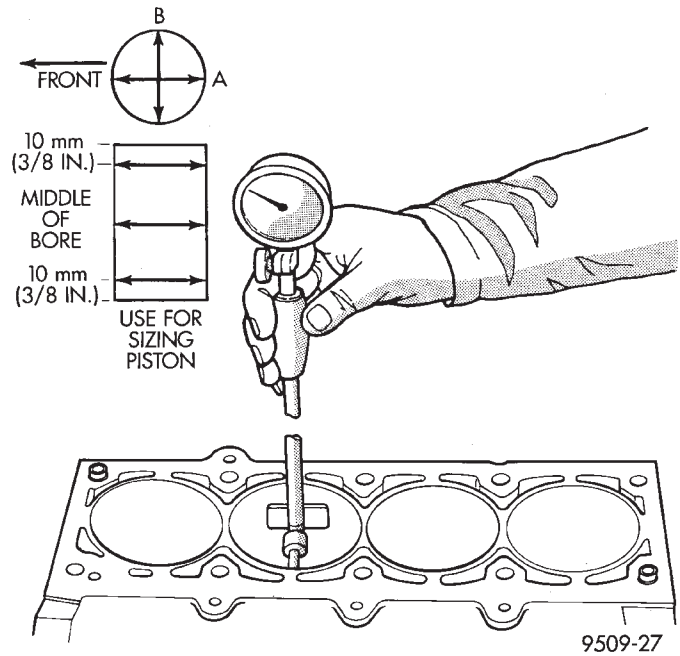

Fig. 12 Cylinder Bore Measurement
(1) It is mandatory to use a dial bore gauge to measure each cylinder bore diameter (Fig. 12). To correctly select the proper size piston, a cylinder bore gauge, Special Tool 6879, capable of reading in .0001"